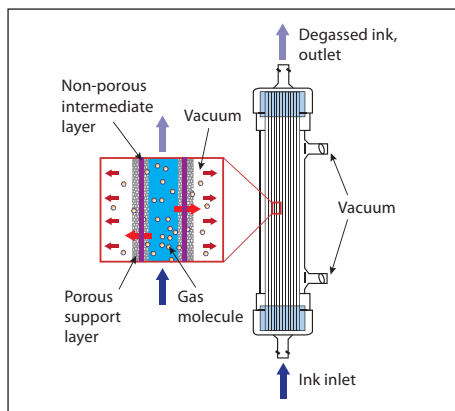

Figure 2: Schematic of fiber showing directional flow
- 3.2 Connect ink inlet / outlet and vacuum ports. (See figure 2.) Verify that connection surfaces are clean and not damaged. Make sure not to over tighten the luer lock fittings.